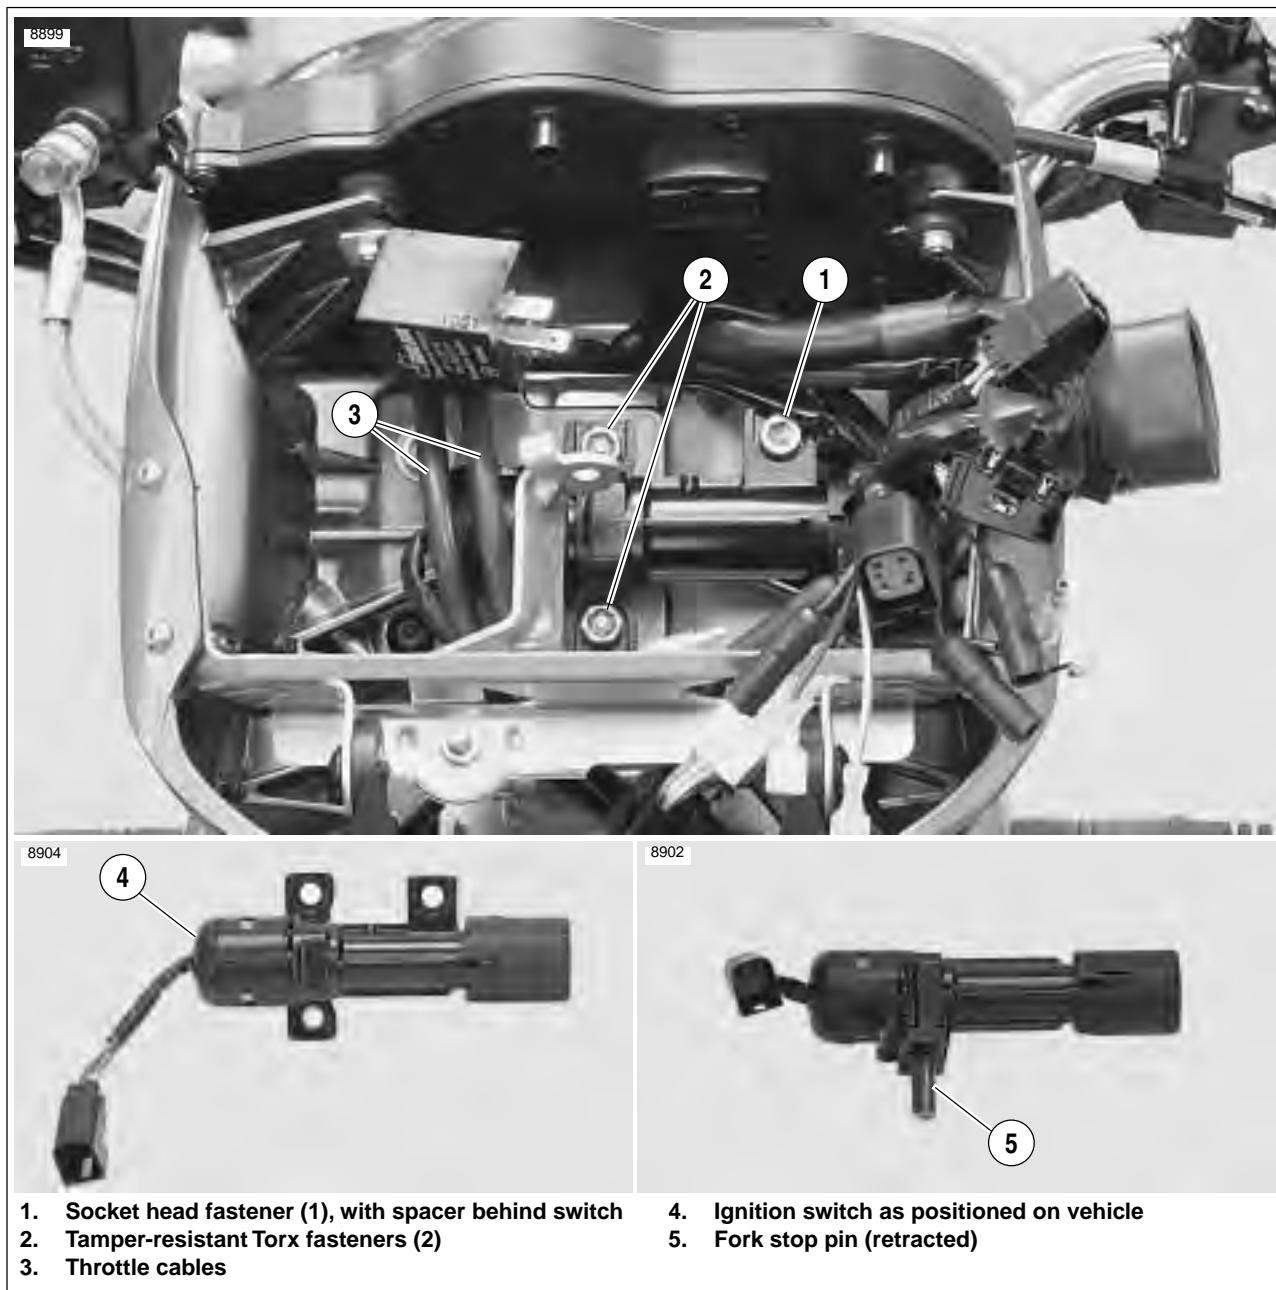
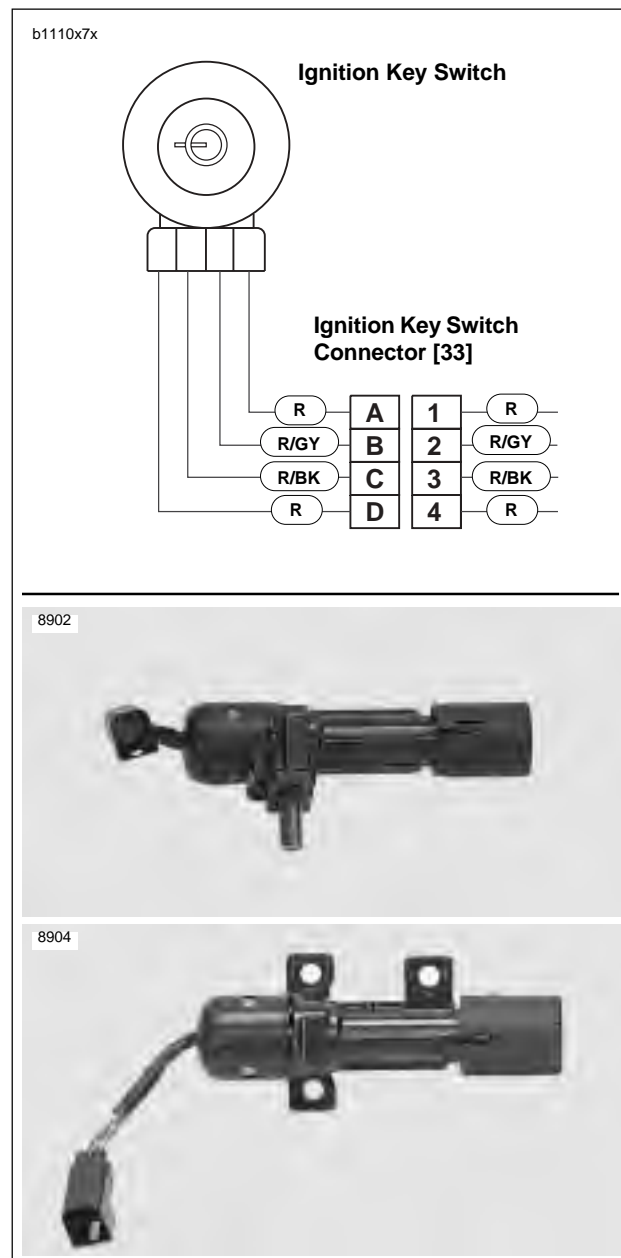

Figure 7-4. Ignition Switch
Figure 7-7. Ignition Key Switch Wiring
7. See **Figure 7-4**. Use Snap-on Tamper-Resistant T45 Torx driver (Part No. FTXR45E) to remove the two tamper-resistant Torx fasteners (2) securing ignition switch to upper fork clamp.
8. Remove the final ignition switch fastener (1) along with spacer located behind the ignition switch.
9. While holding the throttle cables (3) to your left (the right side of the vehicle), pull the ignition switch (4) toward you and roll the assembly away from you until the fork stop pin (5) is pointing down.
1. See Figure 7-4. While holding the throttle cables (3) to your left (the right side of the vehicle), slide the ignition switch assembly in to your right (the left side of the vehicle).
2. Install the ignition switch (4) with the fork stop pin (5) pointing down and, once in place, roll the assembly toward you and insert the fork stop pin into the upper triple clamp.
4. See Figure 7-7. Connect ignition switch connector [33] to wiring harness.